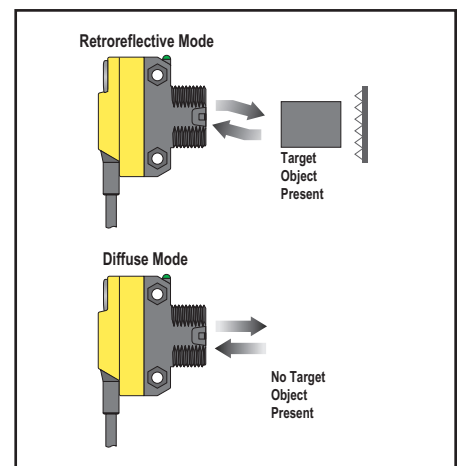

Figure 2. Dark sensing condition
- Light SET and Dark SET: one switching threshold, offset from a single sensing condition (the “dark” condition or the “light” condition; see Figure 2)